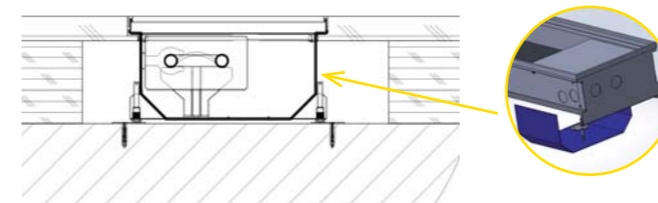

Figure 5: Hollow floor - brace for floor convector without fan.
- › When installing a convector in a hollow floor, hollow floor braces must be used outside the convector unit in order to ensure its stability. (Figure 5).